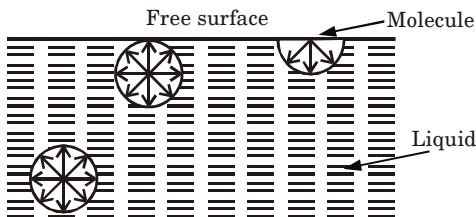

Fig. 1.6.1.
- This occurs due to the force of cohesion at the free surface as shown in Fig. 1.6.1.